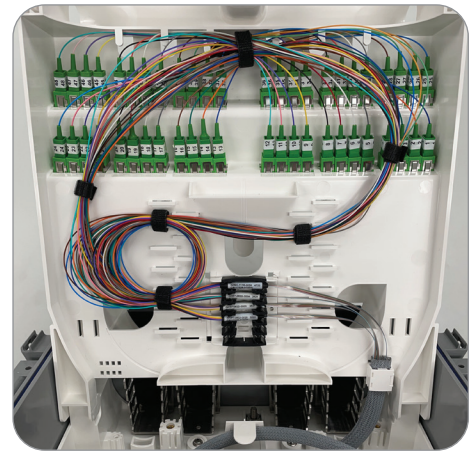

Figure 33
2. Lift the hinged adapter panel so it sits open freely (**Figure 33**).